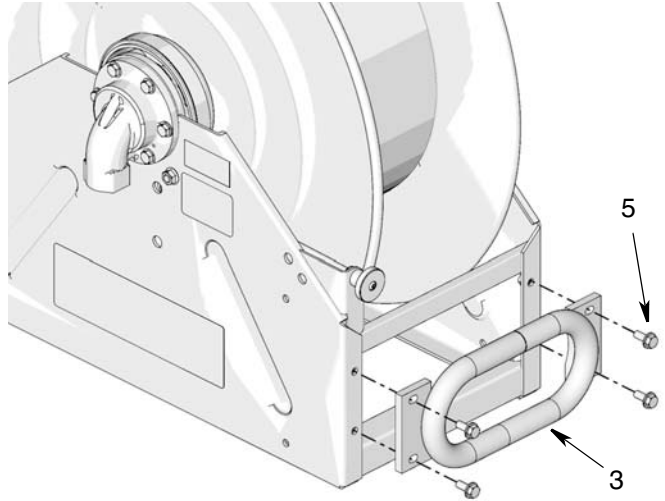
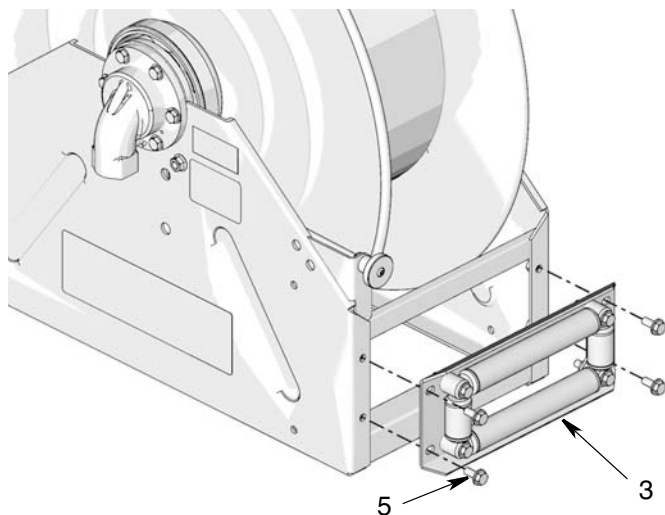

FIG. 2
FIG. 3
3. Align fairlead (3) (FIG. 2: models 24T327, 24T328, 24T329; FIG. 3: models 24R072, 24T330, 24T331) with front of hose reel frame.
4. Secure fairlead (3) to front of hose reel using nuts (4) (not shown) and screws (5) provided (FIG. 2 and FIG. 3). Torque to 25-35 ft lbs. (33.9 - 47.5 N.m).